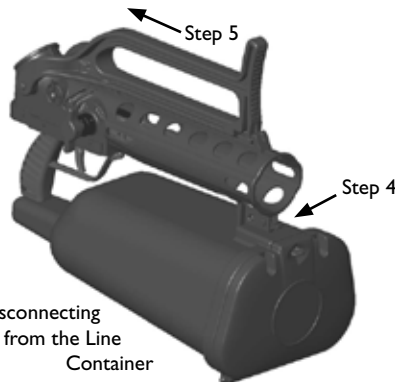

Figure 11b - Disconnecting the Launcher from the Line Container
4. Push down on the Line Container Catch located at the front of the Launcher, just below the barrel opening (Fig. 11b - Steps 4)
5. Slide the launcher rearward (Fig. 11b - Steps 5)